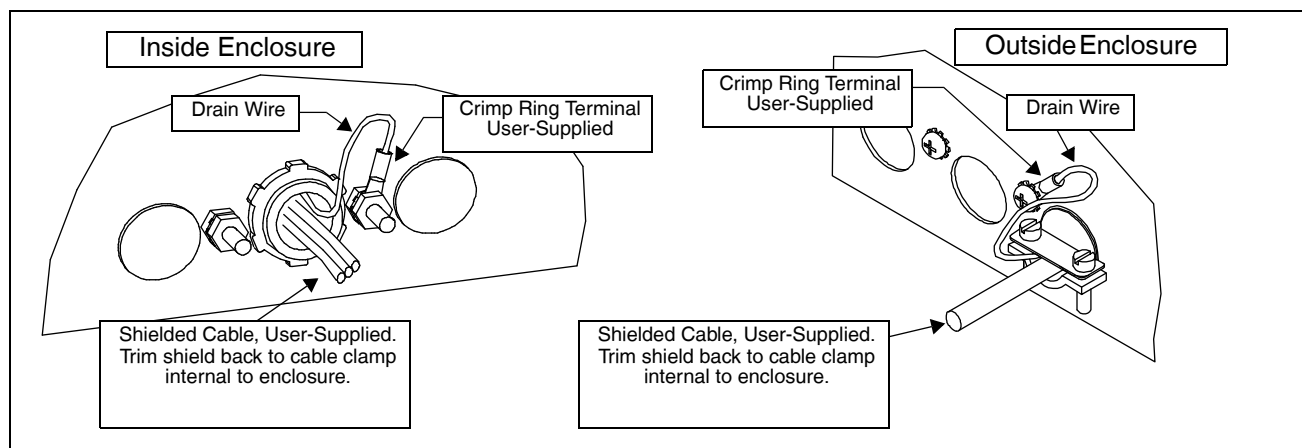

Fig. 3. Ground All Shielded Cable/Drain Wires at Enclosure, Either Internally (Left) or Outside (Right).
- Ground all shield drain wires at the enclosure, using crimp ring terminals fastened to internal grounding studs/screws or with external screws and star washers. See Fig. 3.
- At the SEC-H-RIO/U, ground shield drain wires at the enclosure. See Fig. 3, page 7.
- Wire the door strike or auxiliary output device to the appropriate relay output on the SEC-H-RIO/U and to the power supply used to power the strike or device. Each relay output on the SEC-H-RIO/U has a common terminal (C), and normally open (NO) and normally closed (NC) terminal.
- At the SEC-H-RIO/U, ground shield wires to the designated grounding point at the enclosure. See Fig. 3. on page 7.
- At the SEC-H-RIO/U, ground shield wires to the grounding point at the enclosure. See Fig. 3. on page 7.
- At the Security Controller, ground the shield wire to the grounding point at the enclosure. See Fig. 3, page 7. Leave the shield wire at the other end of the trunk open, meaning insulate the shield wire by taping it back or using shrink tubing.